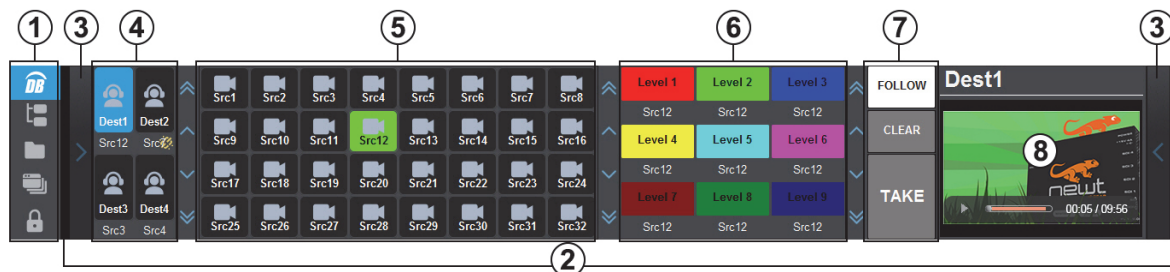

Figure 17 Example of an Ultrix Soft Panel Loaded to an Ultritouch
This area is the Home Page of the soft panel and displays the windows defined during the soft panel configuration. By default, the Ultritouch PB soft panel template includes two drawers (3), a Destination window (4), a Sources window (5), and an Operations window (7). **Figure 17** shows a customized soft panel that also includes a Status window (6) and an Output Monitor window (8). Each of these elements are summarized below.
Each button in this area represents a configured output for the selected router. Tap a button to include the destination in the next crosspoint switch. For example, **Dest1** is selected in **Figure 17**. Note that the number of destinations and the button labels are defined in the Ultrix > Database > Destinations interface. The icon used on the button type (e.g. the headphone icon is used in **Figure 17**) is specified during the soft panel configuration.
Each button in this area represents an input in the routing system. Tap a button to include the source in the next crosspoint switch. For example, **Src12** is selected in **Figure 17**. Note that the number of sources and the button labels are defined in the Ultrix > Database > Sources interface. The icon used on the button type (e.g. the camera icon is used in **Figure 17**) is specified during the soft panel design.
Tap a level button to include that level in the next crosspoint switch. Note that the number of levels and the button labels are defined in the Ultrix > Database > Levels interface. This window also displays the status of crosspoint selections. In **Figure 17**, **Dest2** is selected for the next crosspoint switch.